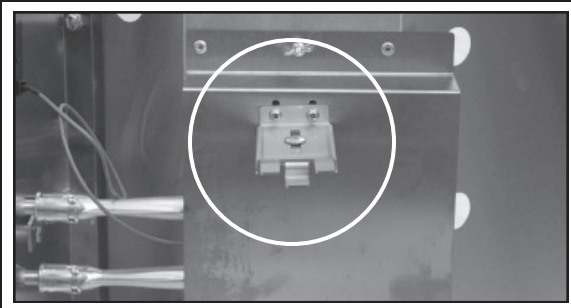

Fig. 7
1. Located on the underside of grill pit, mount the LP tank fastener to the underside of the heat shield with 2 10-24 Pan Head Bolts as shown in (Fig. 7).